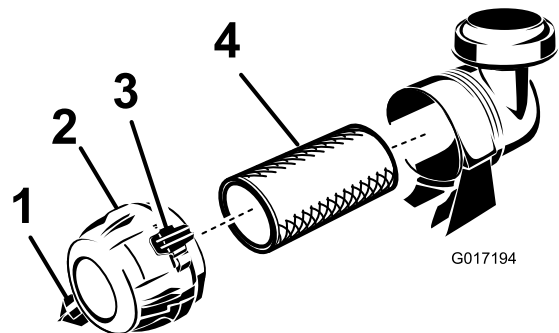

Figure 22
1. Pull the latch outward and rotate the air cleaner cover counterclockwise (Figure 22).
3. Gently slide the filter out of the air cleaner body (Figure 22) to reduce the amount of dust dislodged. Avoid knocking the filter against the air cleaner body.